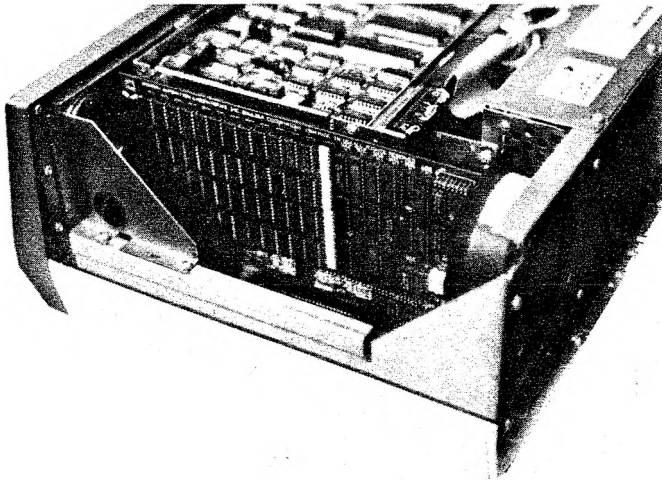

Figure 3-3 Escort board housed in the Victor computer
5. Apply enough pressure to ensure that the Escort board is properly seated in the connector. Make sure the board is firmly held by the card guides (see figure 3-3).